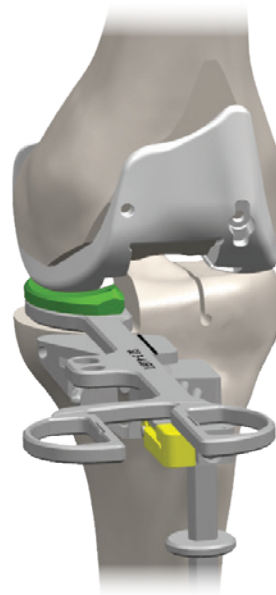

Figure 31
- 2 Select the best size Medial Baseplate Trial (Figure 31). Find the medial insert trial thickness which results in 1-2mm laxity in extension. Next, find the medial insert trial slope which results in 2-3mm of laxity in flexion: